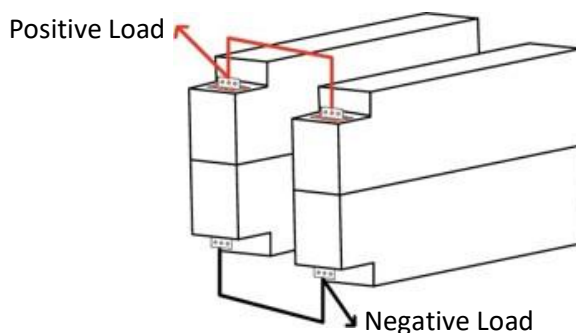

Figure 3: Two GC3 | GC3H Batteries connected in Parallel to create a 12V 540Ah Battery Bank
Multiple DFGC3 | DFGC3H batteries may be connected in parallel to increase the capacity and current of the system. When batteries are connected in parallel, the voltage of the system does not change, but the capacity and current limits are additive. For example, two DFGC3 | DFGC3H batteries connected in parallel (shown in Fig. 3) create a 12V 540Ah bank that can deliver 600A continuously and 1,000A for 30 seconds.
7. Repeat steps 3-6 for additional batteries in the system. An example of a finished connection can be found below in Fig. 3.